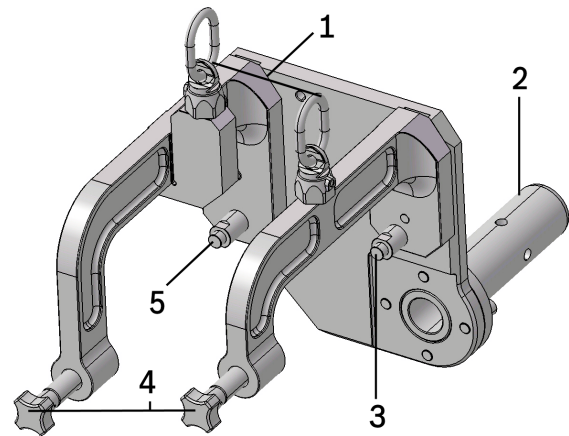

Figure 1: Transmission support T40344
3. Remove the bolt (3) from the transmission support and store it in a safe place (see Figure 1).